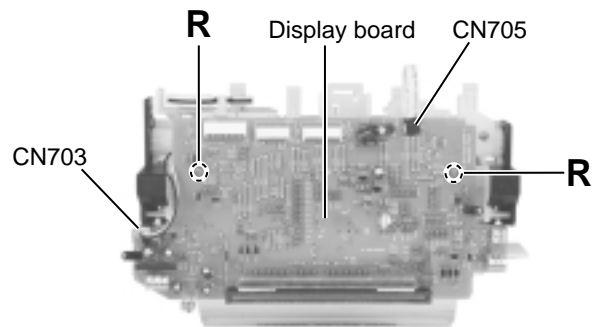

Fig.30
**■Removing the display board (See Fig.30)**